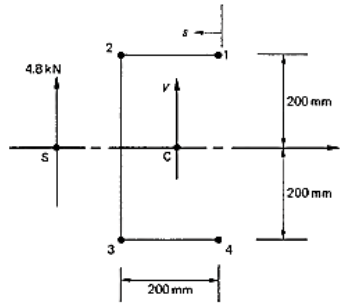

Figure 7
- (b) Calculate the shear flow distribution in the channel section shown in Figure 7 produced by a vertical shear load of 4.8 kN acting through its shear center. Assume that the walls of the section are only effective in resisting shear stresses while the booms, each of area 300mm^2 , carry all the direct stresses. [7M]